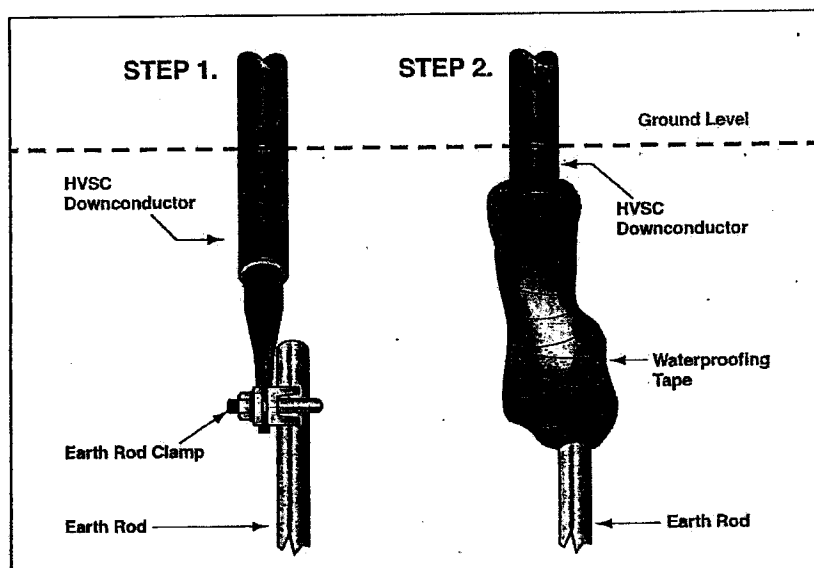

Figure 21.
5. Bunch together both inner and outer screen conductors. If connecting directly to the earth system as per figure 21, the bunched conductors should be connected to the earth rod clamp and the clamp tightened holding the conductors firmly in place. To avoid oxidation of this connection, seal it using the waterproofing tape as provided in the kit.